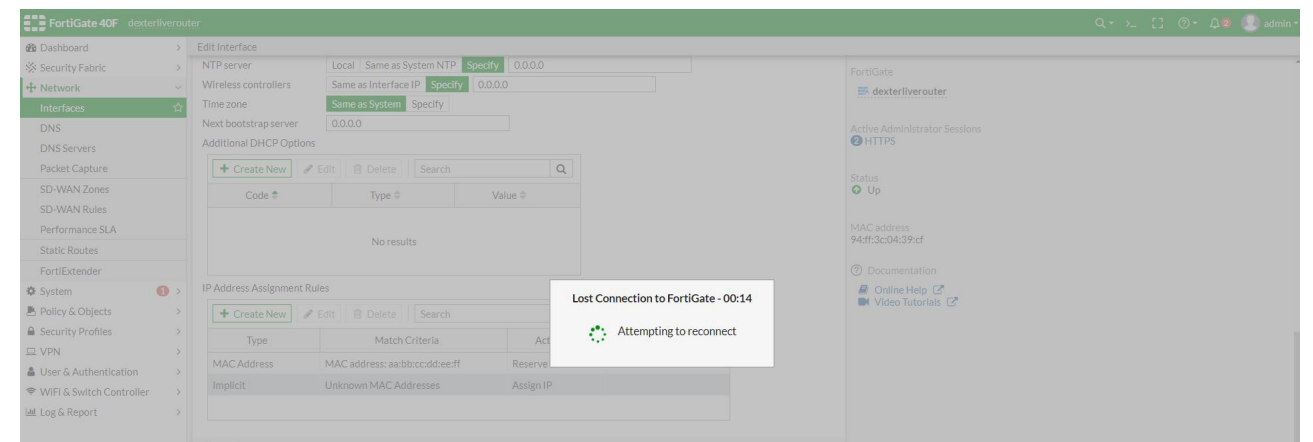

Figure 30
23. The router has been configured and will begin the update process. You will be presented with a pop-up screen (Figure 30).